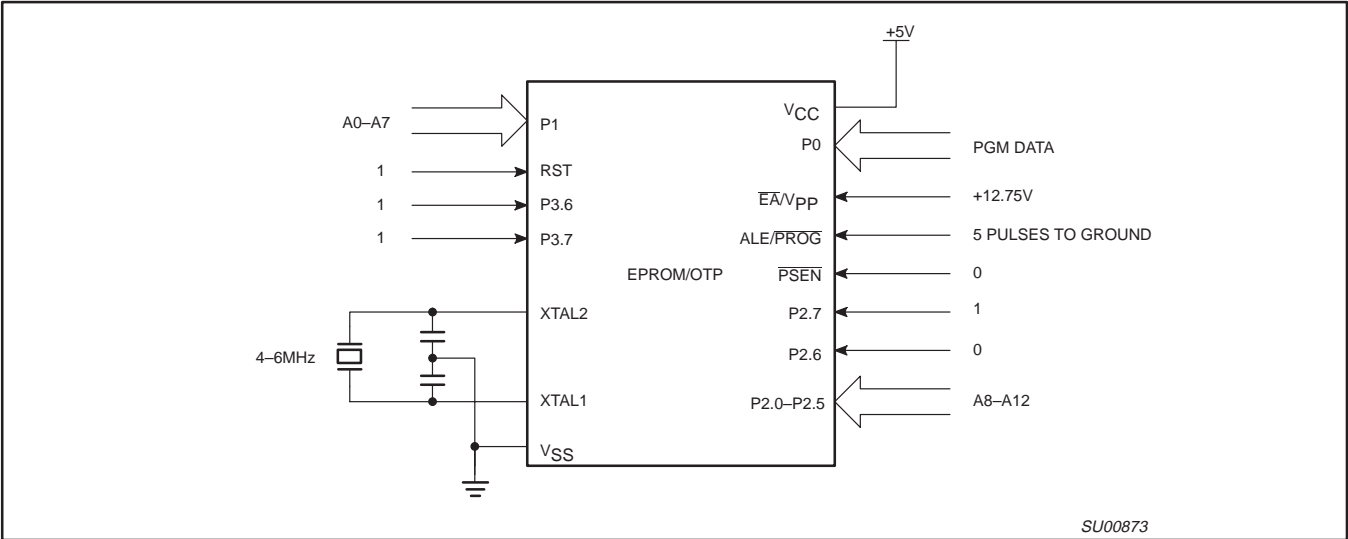
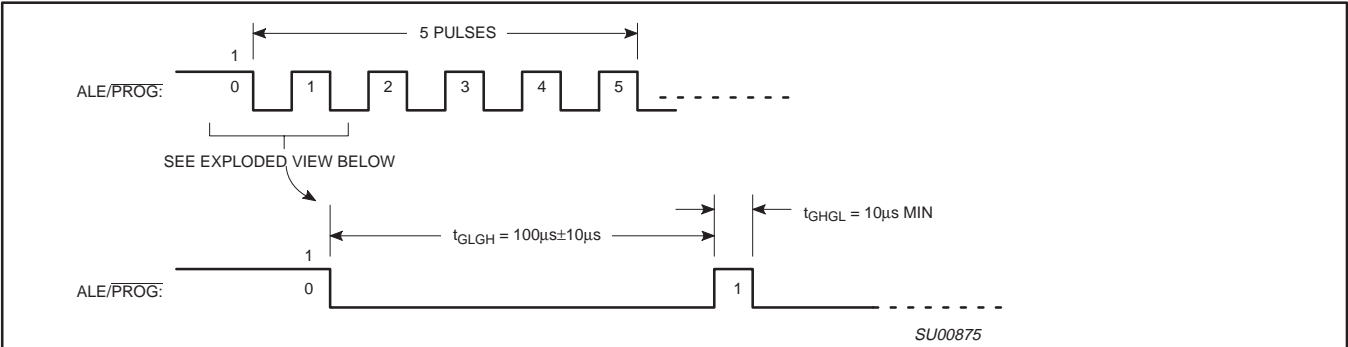
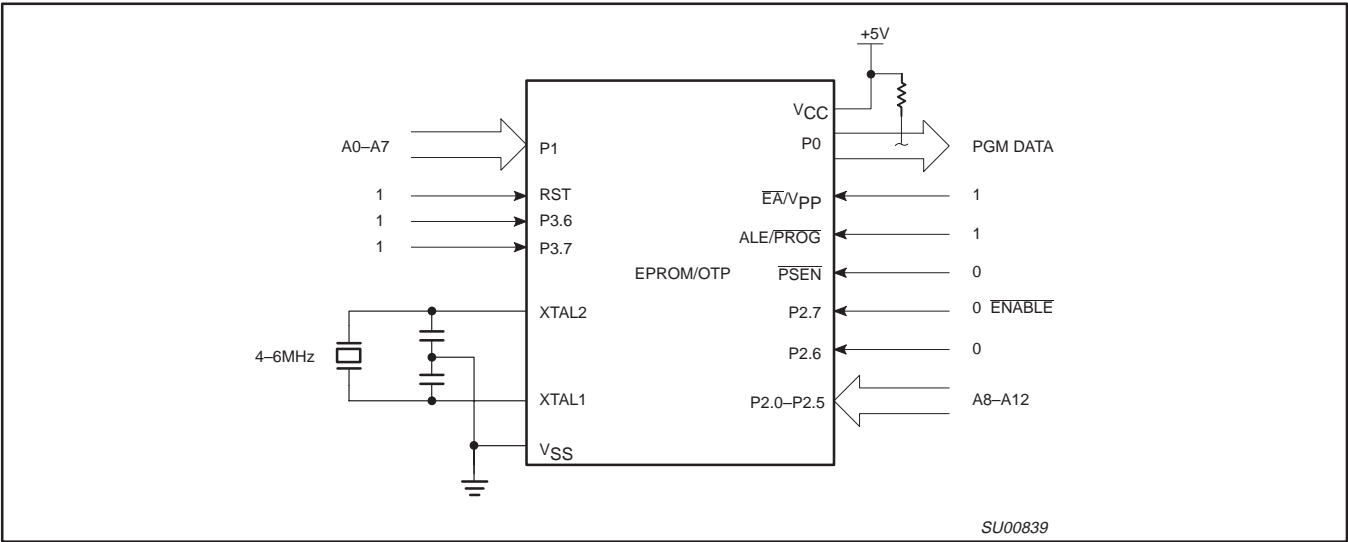

Figure 26. Programming Configuration
Figure 27. PROG Waveform
Figure 28. Program Verification
Table 8 shows the logic levels for reading the signature byte, and for programming the program memory, the encryption table, and the security bits. The circuit configuration and waveforms for quick-pulse programming are shown in Figures 26 and 27. Figure 28 shows the circuit configuration for normal program memory verification.
The setup for microcontroller quick-pulse programming is shown in Figure 26. Note that the device is running with a 4 to 6 MHz oscillator. The reason the oscillator needs to be running is that the device is executing internal address and program data transfers.
The address of the EPROM location to be programmed is applied to ports 1 and 2, as shown in Figure 26. The code byte to be programmed into that location is applied to port 0. RST, \overline{PSEN} and pins of ports 2 and 3 specified in Table 8 are held at the 'Program Code Data' levels indicated in Table 8. The ALE/PROG is pulsed low 5 times as shown in Figure 27.
If security bits 2 and 3 have not been programmed, the on-chip program memory can be read out for program verification. The address of the program memory locations to be read is applied to ports 1 and 2 as shown in Figure 28. The other pins are held at the 'Verify Code Data' levels indicated in Table 8. The contents of the address location will be emitted on port 0. External pull-ups are required on port 0 for this operation.
- * FOR PROGRAMMING CONFIGURATION SEE FIGURE 26.
FOR VERIFICATION CONDITIONS SEE FIGURE 28.